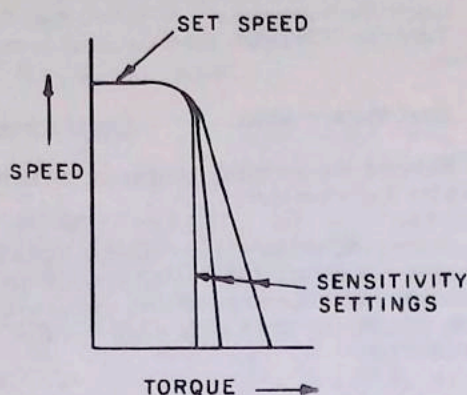

Fig. 6. Torque-limit sensitivity settings
15. Adjust the LIMIT SENSITIVITY potentiometer on the front of the "coordination and signal amplifier with torque limit" printed-circuit card to the desired degree of sensitivity of the torque-limiting circuit. A graphic picture of this adjustment is shown in Fig. 6.